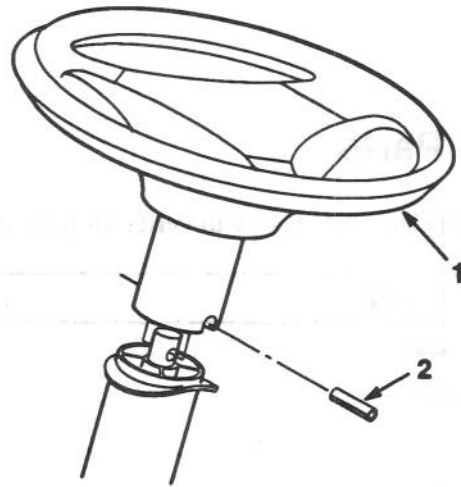

Figure 2
4. Using a hammer, drive the roll pin in until it is flush with the outside of the steering wheel (Fig. 2).
2. Slide the steering wheel over shaft. Line up the hole in the steering wheel with the hole in the shaft (Fig. 2). From the seat you should be able to read the brand logo on the steering wheel.